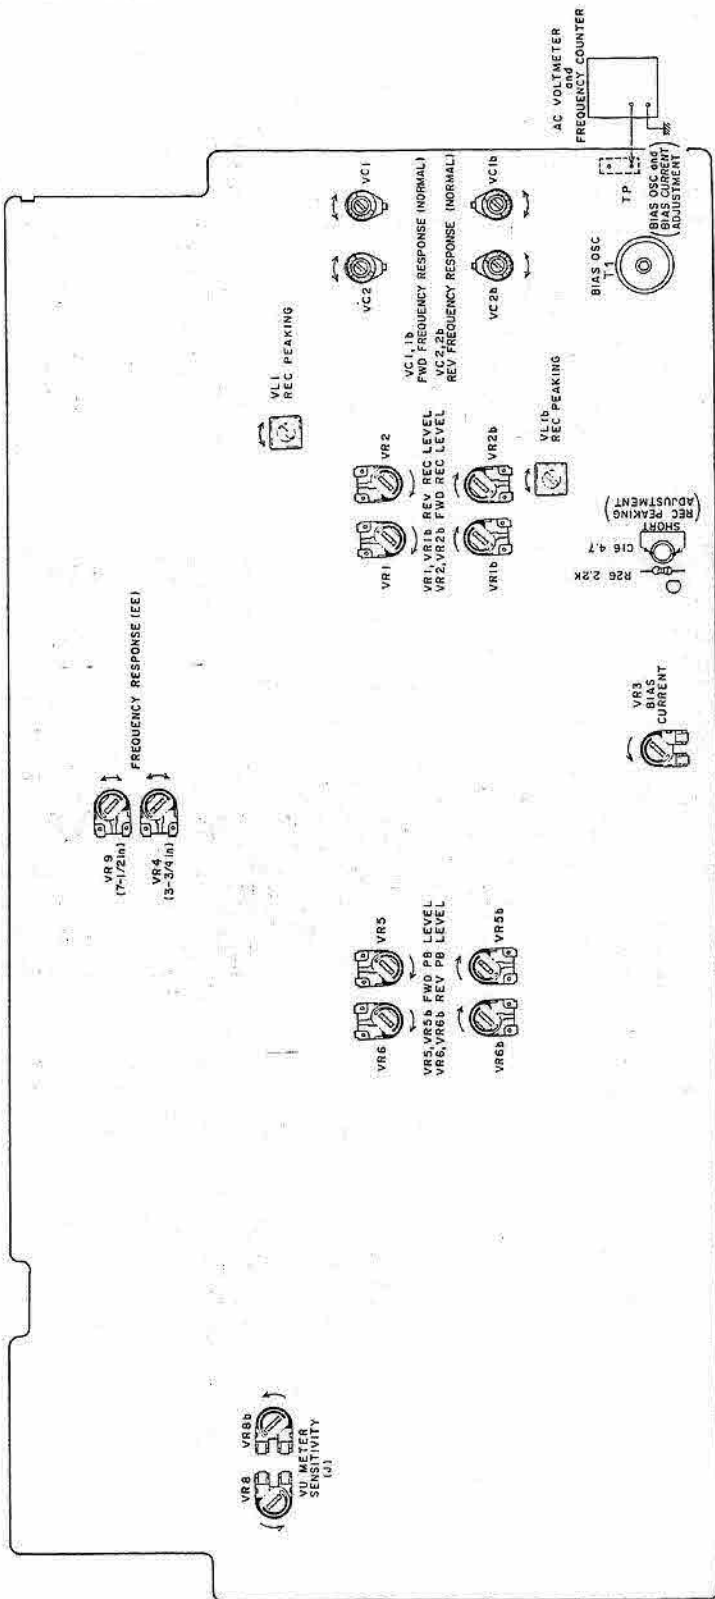

Fig. 49 Pre Amp P.C Board T1009A510A
- Stop Recording bias oscillator while making Rec Peaking adjustment (Refer to Fig. 49).